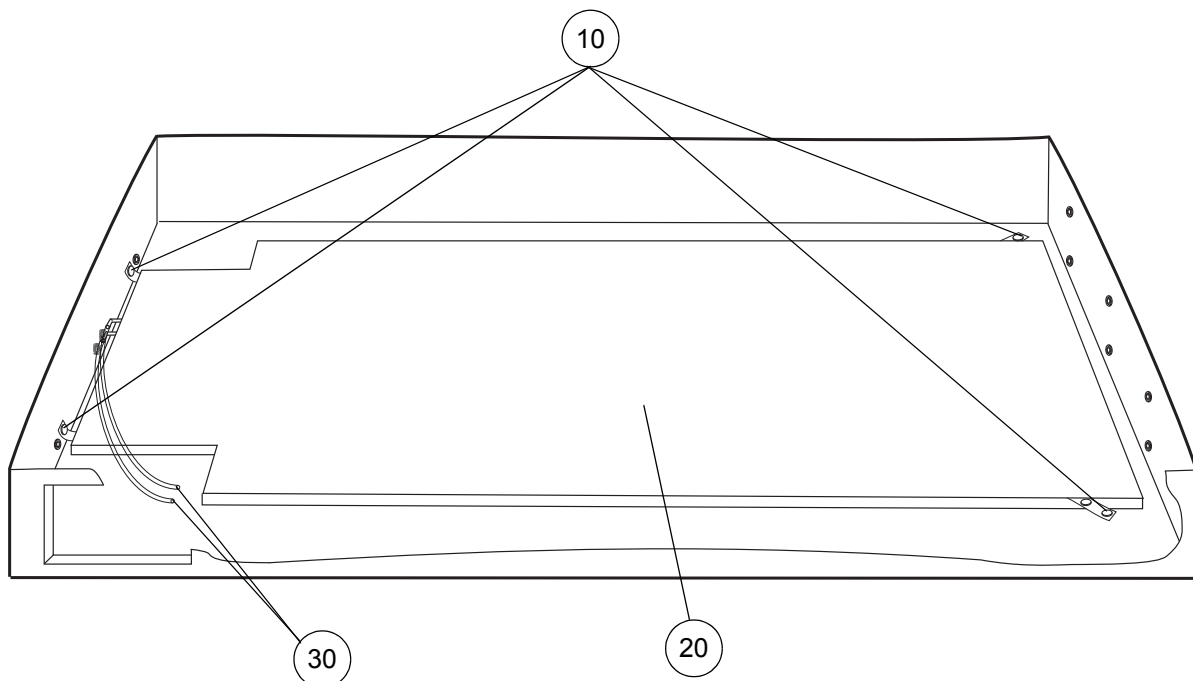

Figure 40 - Auto Matt connections
- 20.4 Disconnect the pop studs (Fig 40, Item 10) securing the Auto Matt (Fig 40, Item 20).
- 20.5 Disconnect the Auto Matt hoses (Fig 40, Item 30) from the hose sleeves (Fig 40, Item 40) at the CPR.
- 20.6 Remove the Auto Matt (Fig 40, Item 20).
- 21.1 Position the Auto Matt (Fig 40, Item 20) sheet and connect the pop studs (Fig 40, Item 10) securing the Auto Matt (Fig 40, Item 20) to the base cover.
- 21.2 Connect the Auto Matt hoses (Fig 40, Item 30) to the hose sleeves on the rear of the CPR unit (Fig 49, Item 100).